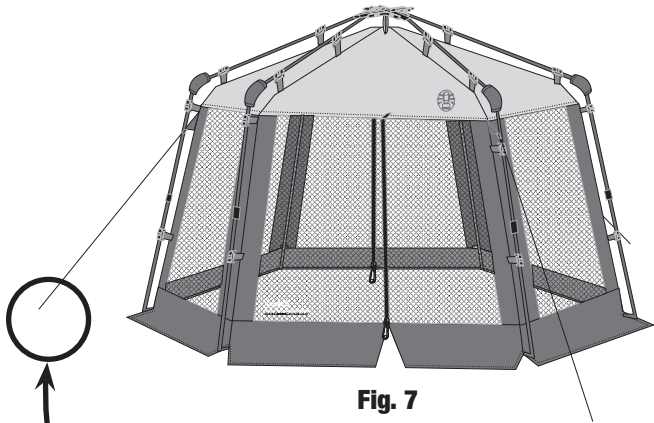
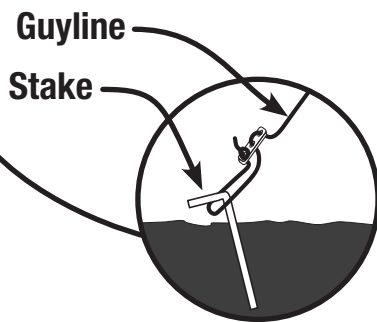

Fig. 7
Fig. 8
- Attach and stake out guylines. (Fig. 7 and Fig. 8)
- Remove guylines and stakes. (Fig. 8 and Fig. 6)